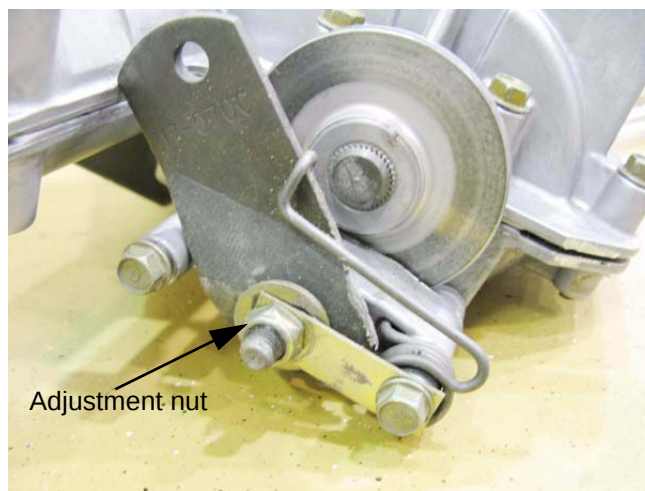

Figure 6.111
- 35f. Set the clearance between the pads and rotor to .010-.015" (.25-38mm) using the adjusting nut on the brake yoke. See Figure 6.111.